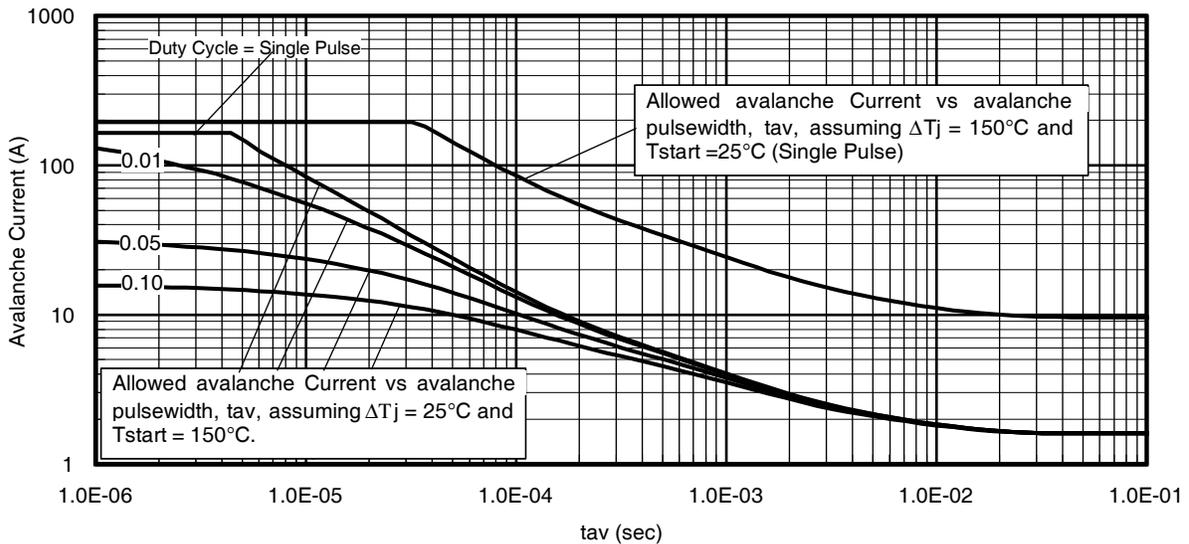

Fig 14. Typical Avalanche Current vs. Pulsewidth
- ④ $I_{SD} \leq 165A, di/dt \leq 430A/\mu s, V_{DD} \leq V_{(BR)DSS}, T_J \leq 175^\circ\text{C}$.
- ⑤ Pulse width $\leq 400\mu s$; duty cycle $\leq 2\%$.
- ⑥ $C_{oss\text{ eff. (TR)}}$ is a fixed capacitance that gives the same charging time as C_{oss} while V_{DS} is rising from 0 to 80% V_{DSS} .
- ⑦ $C_{oss\text{ eff. (ER)}}$ is a fixed capacitance that gives the same energy as C_{oss} while V_{DS} is rising from 0 to 80% V_{DSS} .
- ⑧ When mounted on 1" square PCB (FR-4 or G-10 Material). For recommended footprint and soldering techniques refer to application note #AN-994.
- ⑨ $R_{\theta j}$ is measured at T_J approximately 90°C .
- ⑩ Limited by T_{Jmax} , see Fig. 14, 15, 22a, 22b for typical repetitive avalanche performance.
- ⑪ $R_{\theta jc}$ value shown is at time zero.
Notes on Repetitive Avalanche Curves, Figures 14, 15:
7. ΔT = Allowable rise in junction temperature, not to exceed T_{jmax} (assumed as 25°C in Figure 14, 15).